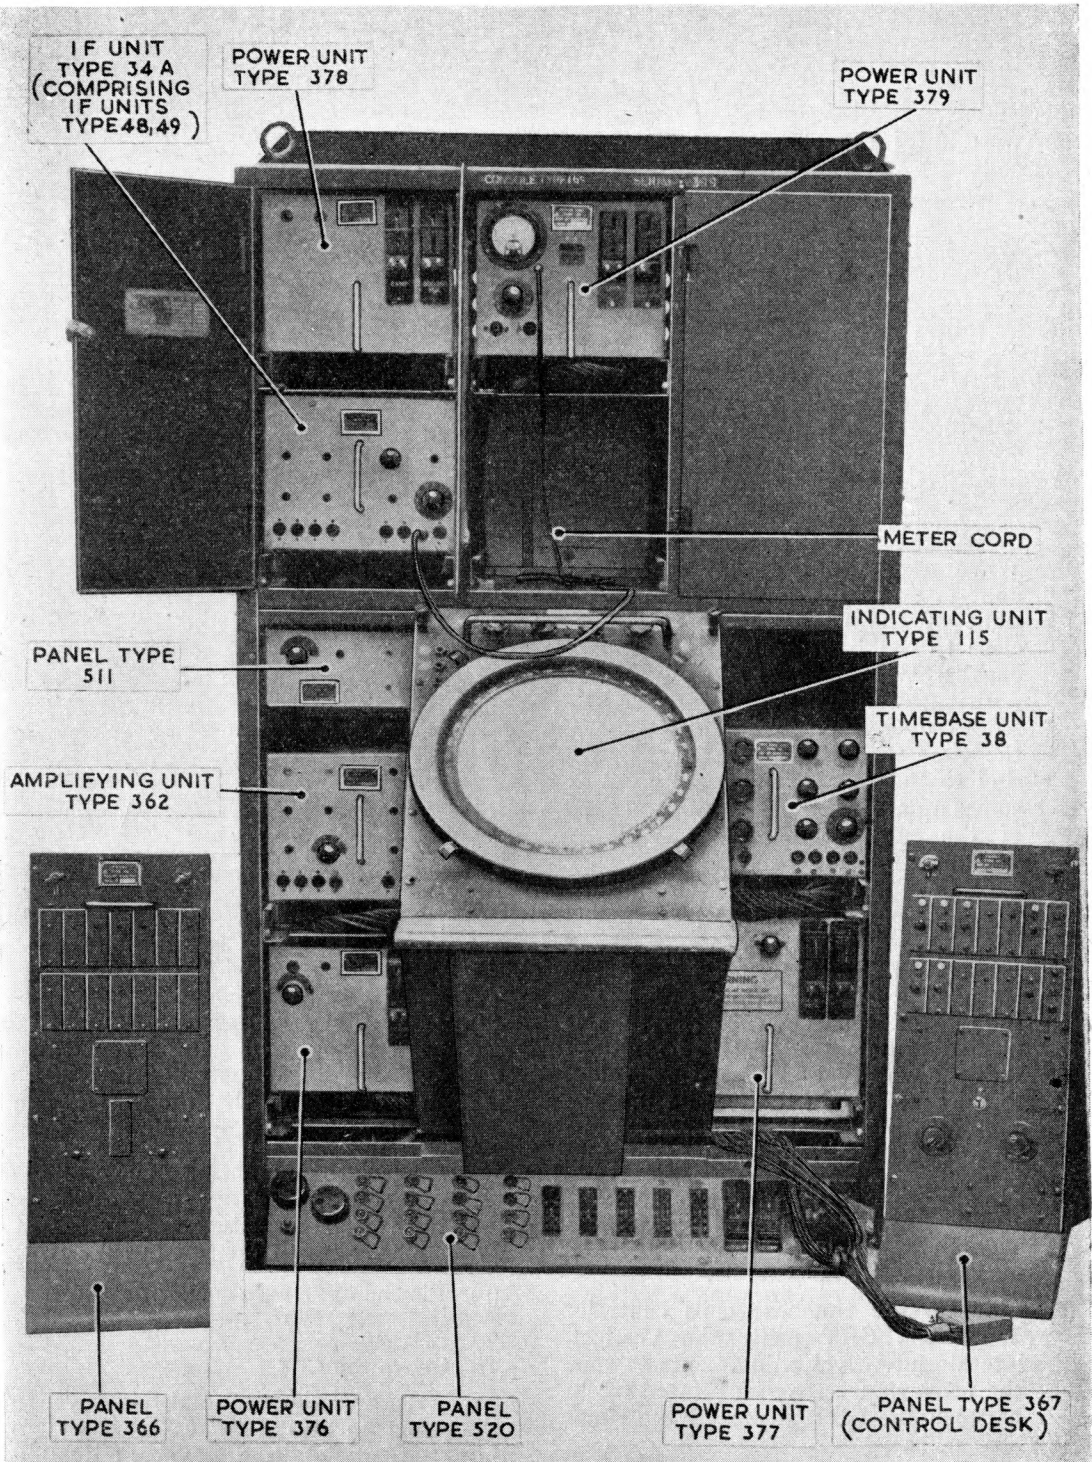

Fig. 29. Console No. 2 (Type 16)
- (1) Plan-position display of radar information.
- (2) Mk. 3G IFF display on the same CRT.
97. Console 2 (console Type 16) provides plan-position display of radar information (*fig. 29*).